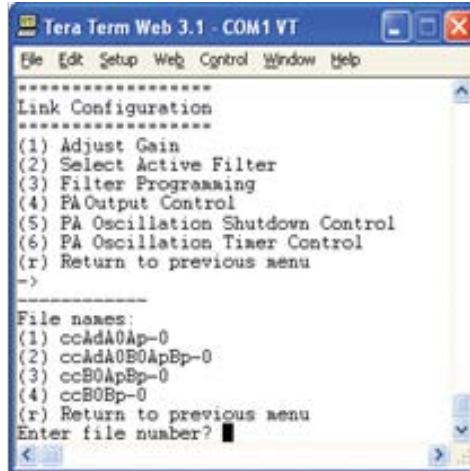

Figure 4-10: Selecting Filter Programs
All other sub-menu items function in much the same way as the Adjust Gain item. Some of the items will offer additional selections and will be self-explanatory. Figure 4-10 is one example of these additional options. This menu displays when **(3) Filter Programming** is selected.